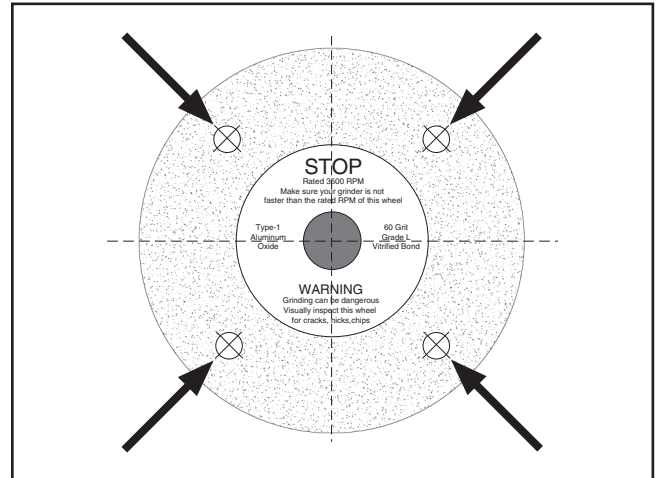

Figure 24. Tapping locations for a ring test.
3. At the four spots on the wheel shown in **Figure 24**, gently tap the wheel with a non-metallic object, such as a screwdriver handle or wooden mallet.